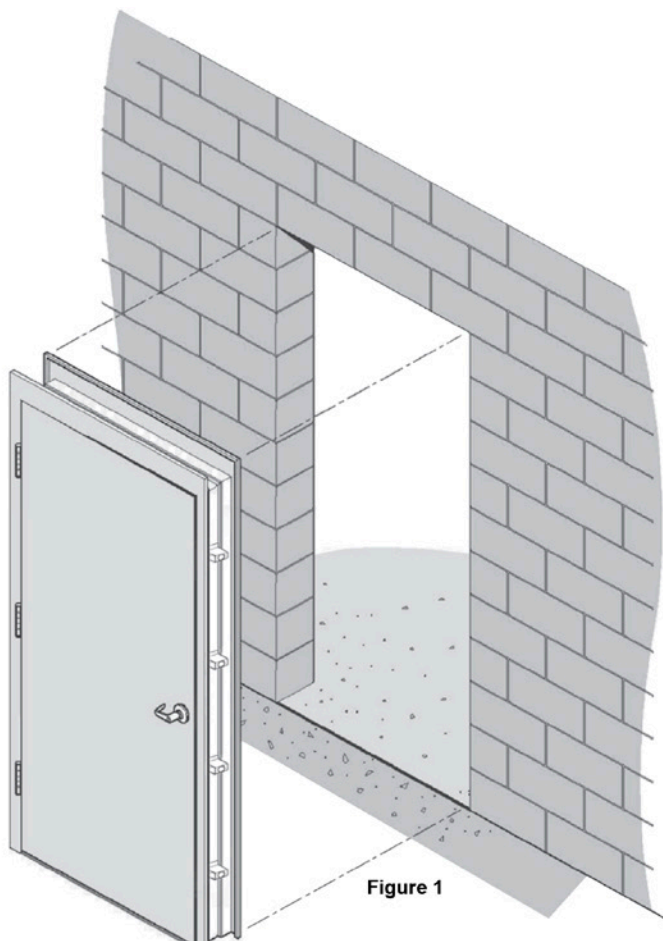

Figure 1
- 2.** Uncrate the door, position door in place within the wall as desired. Temporary support may be needed to help hold door in place. (Figure 1)